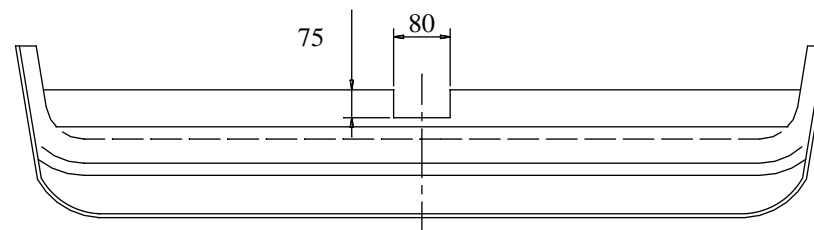

Fig. 2
2. Slide the main bar of the towbar (pos. 1) to the chassis member and fit it using bolts M10x35mm (pos. 6) supplied with the towbar.
3. Cut the bumper according to the fig. 2 and then reassemble it.